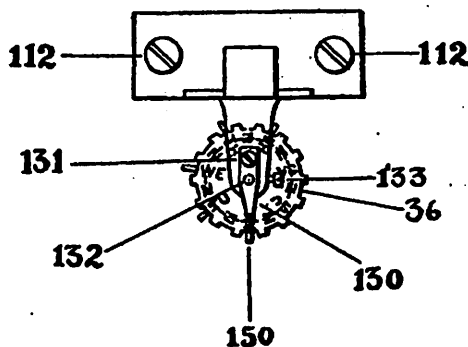

Fig. 4
1. Place your finger against front edge of indexed ratchet wheel 36, Figs. 4 and 5, and turn it from left to right until the pointer 130, Figs. 4 and 5, stands at the index of the day or night on which you are setting it. If you set it between 6.00 a. m. and 6.00 p. m., set to "Mo"; if after 6.00 p. m. Monday, set to the "N" following "Mo" and so on.